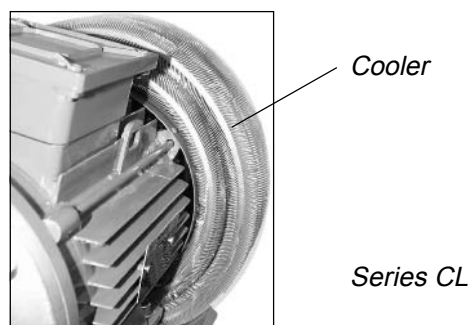

Fig. 5.8: Cleaning the compressed air/oil cooling unit
- Blow down the dirt with compressed air in the opposite direction to the normal cooling air flow. Vacuum out the dirt using an industrial vacuum cleaner (see Fig. 5.8).